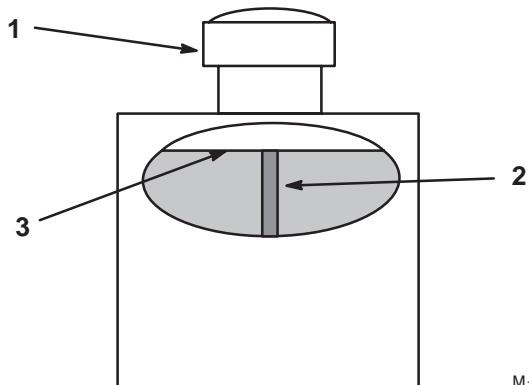

Figure 10
2. Clean area around filler neck of hydraulic tank (Fig. 10).
3. Remove cap from filler neck. Look inside to check if there is fluid in the reservoir. (Fig. 10).
**Note:** Fluid level should be to the top of the baffle when fluid is warm (Fig. 10).